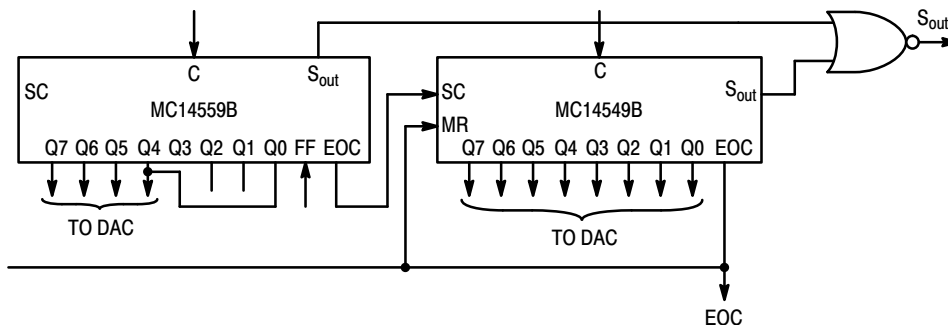

Figure 4. Continuously Cycling 12-Bit ADC
**Continuously Cycling 12-Bit ADC (Figure 4)**